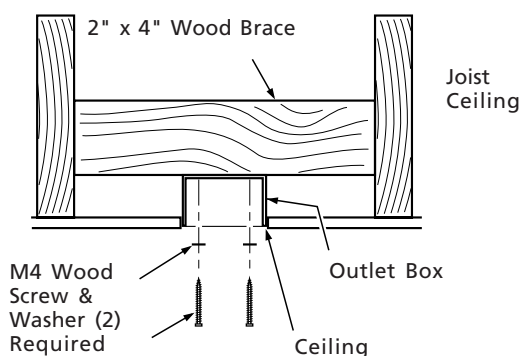

Figure 3
1. Secure a metallic outlet box 4" x 1-1/2" or 4" x 1/2" deep to a 2" x 4" cross brace between two ceiling joists as shown in Figure 3. The outlet box must be recessed in the ceiling by 1/16" minimum. Secure the outlet box to the cross brace by drilling two (2) pilot holes no larger than the minor diameter of the wood screws (5/64") and use two #8 x 1-1/2" wood screws and washers. Use the innermost holes for securing the box. Orient the box so the outermost holes are aligned with the 2" x 4" brace. The outermost holes will be use in Step 3 sub-step 2.